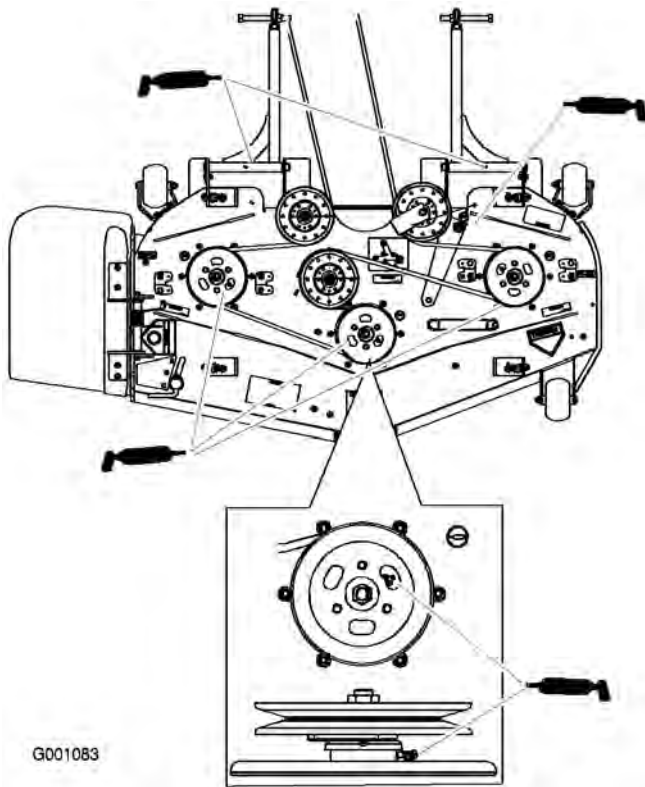

Figure 28
3. Check the tensioning arm for grease (Figure 28).
4. Check the grease for the three spindle bearings (Figure 28). If needed, add grease until it comes out of the lower seals.